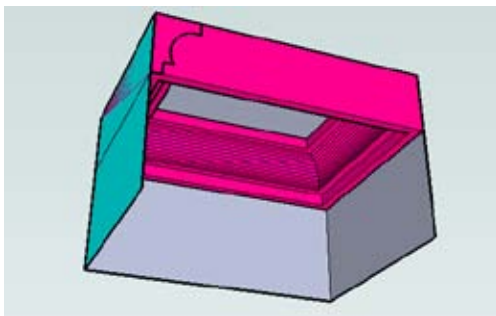

Figure 2-30
7. Hide or erase the floor and some walls, and look up into the room. In Figure 2-30, you can see the intact walls and ceiling, and the Follow Me faces creating a molding.